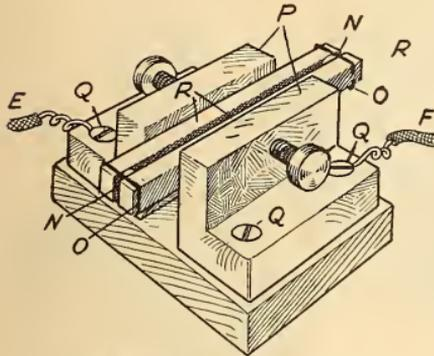

Fig. 2. Micrometer in Detail
A current of four amperes at 110 volts, 60 cycles, is connected by wires (A) and (B) to primary (C) of a  $\frac{1}{4}$  kilowatt transformer. From the secondary (D), wires connect to the terminals (E) and (F) of a micrometer gap shown in detail in Fig. 2. This gap is made by taking two